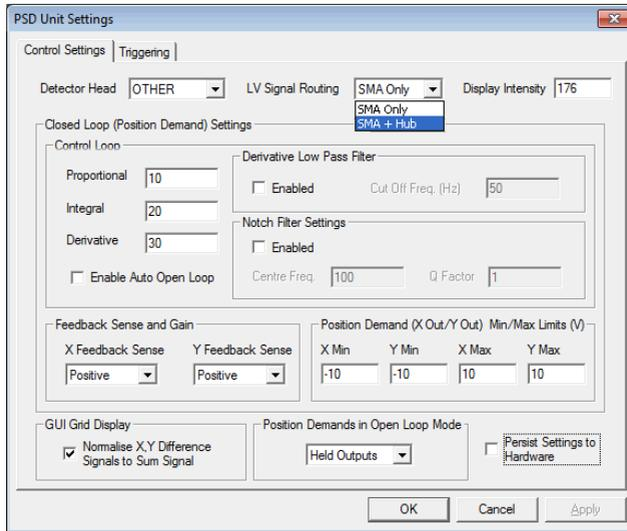

Fig. 5.4 KPA101 Settings Panel - Hub Operation
20) Set the *LV Signal Routing* parameter to *SMA + Hub*, as shown in Fig. 5.4..